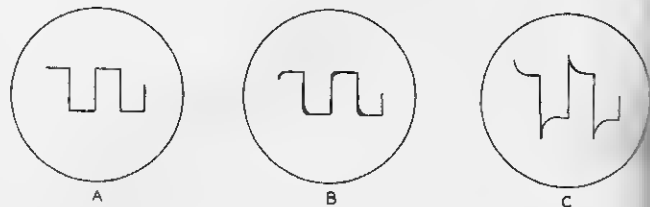

Figure 5
Figure 5 shows the waveforms for the correct amount of circuit compensation, too little compensation, and too much compensation respectively. When making the following adjustments, the waveform should look like Part A of Figure 5.
- ( ) Adjust the X10 trimmer capacitor until the waveform appears as shown in Part A of Figure 5.
- ( ) Adjust the X100 trimmer capacitor until the waveform appears as shown in Part A of Figure 5.
- Adjust the VERTICAL COMPENSATION capacitor (shown on Page 63) until the waveform appears as shown in Part A of Figure 5.